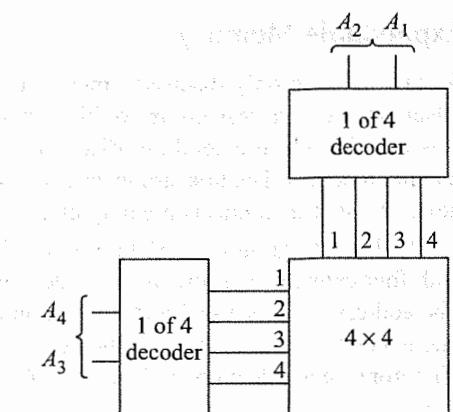

Fig. 13.14
Take another look at the  $4 \times 4$  memory in Fig. 13.12c. To select a single cell, we must activate one and only one row, and one and only one column. This suggests the use of two 1 of 4 binary to decimal decoders as shown in Fig. 13.14. Consider the selection of the cell at address 43 (row 4 and column 3). If  $A_4 = 1$  and  $A_3 = 1$ , the decoder will hold the row 4 line high while all other row lines will be low. Similarly, if  $A_2 = 1$  and  $A_1 = 0$ , the decoder will hold column 3 high and all other column lines low. Thus an input  $A_4A_3A_2A_1 = 1110$  will select cell 43. We can consider  $A_4A_3$  as a row address of 2 bits and  $A_2A_1$  as a column address of 2 bits. Taken together, any cell in the array can be uniquely specified by the 4-bit address  $A_4A_3A_2A_1$ . As another example, the address  $A_4A_3A_2A_1 = 0110$  selects the cell at row 2 and column 3 (address 23).
The address decoders shown in Fig. 13.14 further reduce the number of address lines needed to uniquely locate a memory cell, and they are almost always included on the memory chip. Recall that
11. The address applied in Fig. 13.14 is  $A_4A_3A_2A_1 = 1010$ . What cell is being accessed?